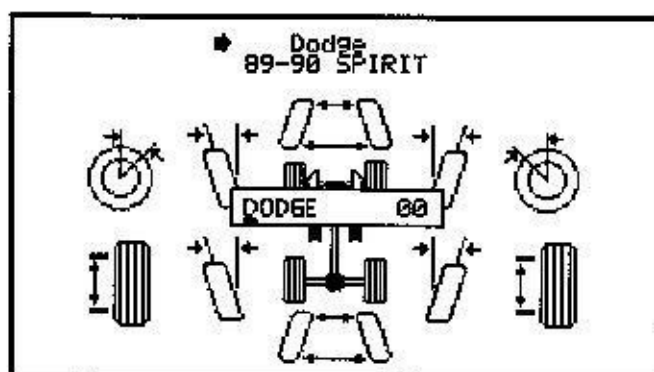

Figure 2-35
2. Press ENTER. The current make appears on the screen as a default. An editing window will appear in the display (see Figure 2-35).